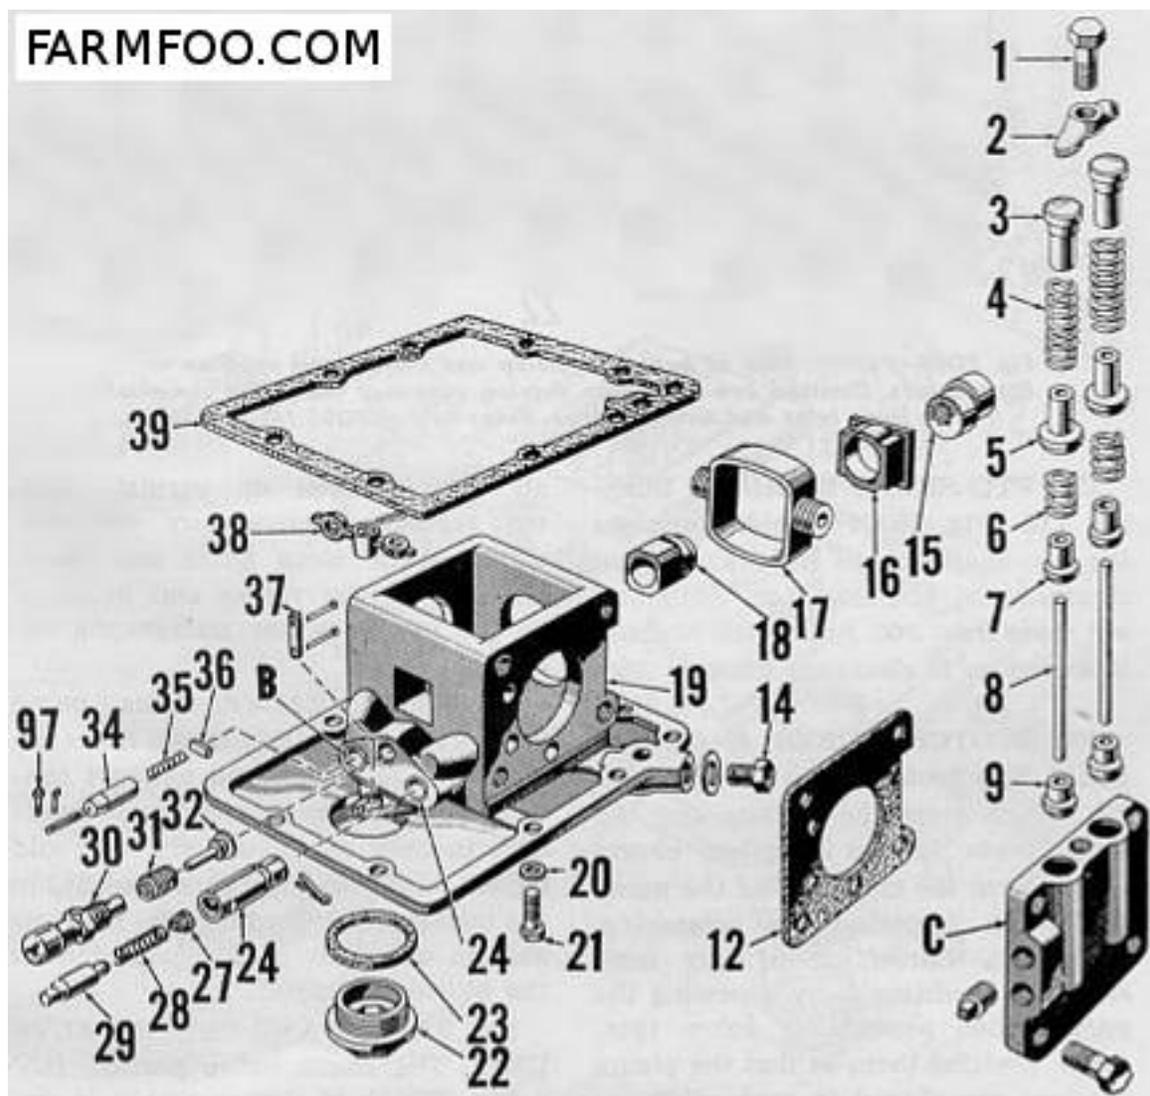
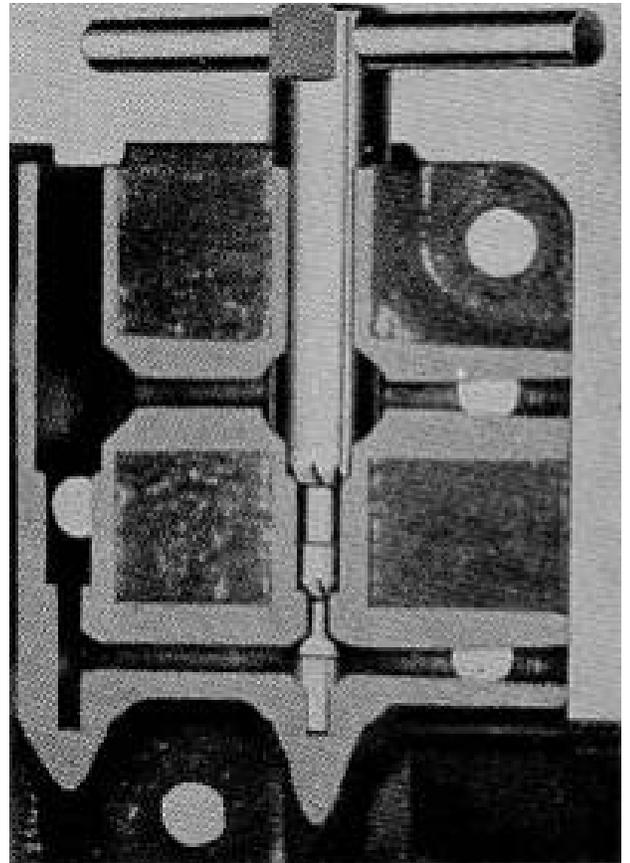

Fig. F092 - Model 8N hydraulic lift pump unit.
Fig. F097 - Hydraulic pump inlet and outlet valve seats in pump valve chamber can be resented as shown.
114. **TEST PUMP.** To check pump operating pressure when pump is installed, proceed as follows: Remove hexagon head (1/2 x 20) cap screw (14-Fig. F092) located at right hand corner of pump base and in its place connect a pressure gauge of not less than 1700 and not more than 2500 psi capacity. With the lift arms secured in the full lowered position or weighted to prevent lifting, move the touch control lever to the top position on the quadrant. The relief valve should open at a gauge pressure of not less than 1600 psi.
Fig. F092 Legend
Fig. F094 - Partial view of hydraulic pump and valves unit used on model 8N tractors. Omitted are the pump driving cam and the valve chambers with their inlet and outlet valves. Refer to Fig. F092 for legend.
116. **DISASSEMBLE AND OVERHAUL.** Procedure for disassembling the pump is self evident after examining the actual unit and by referring to Fig. F092. When removing the rocker lever (38) hold the control valve (29) in position with one hand to avoid the control valve flying. Order of disassembly is relief valve (30), valve rocker lever (38), intake control valve (29), exhaust control valve (34), both valve chambers (C), cam (15) and piston (17) assembly, PTO shaft bushing (18), and disassemble the valve chambers (C).
117. **INTAKE CONTROL VALVE.** Intake control valve (29-Fig. F092) is available in 3
120. INLET AND OUTLET VALVES. Inlet and outlet valves (5 and 7-Fig. F092) are contained in each of the valve chamber covers. If inspection indicates valves are not seating perfectly same can be reseated using special Ford reseater as shown in Fig. F097 and the valves can be refaced. If valves leak after this work has been accomplished, make sure that guides (8) and sockets (9) are aligned to give concentric seating and that they are in good mechanical condition.
127. INLET AND OUTLET VALVES. Inlet and outlet valves (5 and 7-Fig. F095) are identical to the similar parts used in the 8N tractors. Valves can be reseated by using special Ford reseater as shown in Fig. F097 and the valves can be refaced. Be sure guides and sockets (8 and 9) are aligned to give concentric seating and that they are in good mechanical condition.